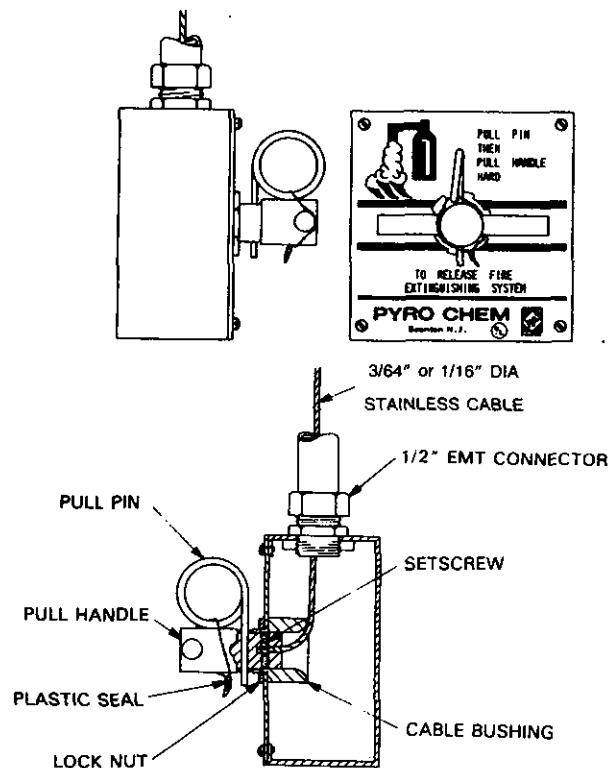

Figure 1-8. Remote Manual Control Pull Station
4. Remote Manual Control — (Model RPS-M) — Remote manual control is provided through the use of a mechanical pull station connected by stainless steel cable to the system control head. This cable is enclosed in 1/2 inch EMT with corner pulleys at each change in direction. (See Figure 1-8).